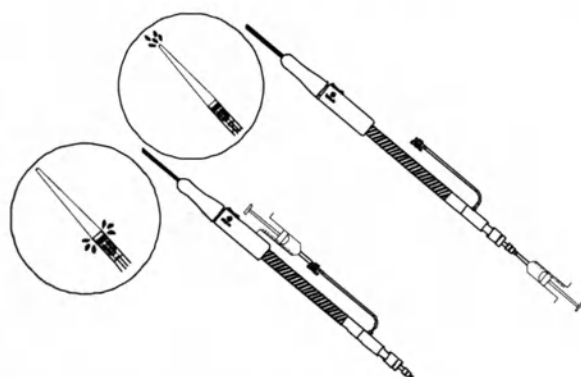

Fig 3 Flush the inner tube and the outer sheath
- ✧ Attach the syringe with heparinized saline to the luer hub and hemostatic valve and flush separately to evacuate air from the inner tube and the outer sheath. (Fig.3)